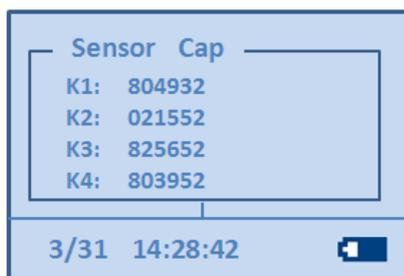

Figure 5-1
6. Highlight "Sensor Cap", enter into the manual as shown in below, at this time, the display shows the old Sensor Cap coefficients. Select "Update", then update 10 groups of data (K0 to K9). After confirm the update, the display shows "Success and check", and new Sensor Cap coefficients are displayed. See figure 5-1 and 5-2 below.